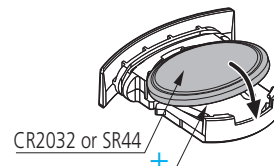

Fig. 1
4. Use a CR2032 or SR44 battery where specified. (Fig. 1)